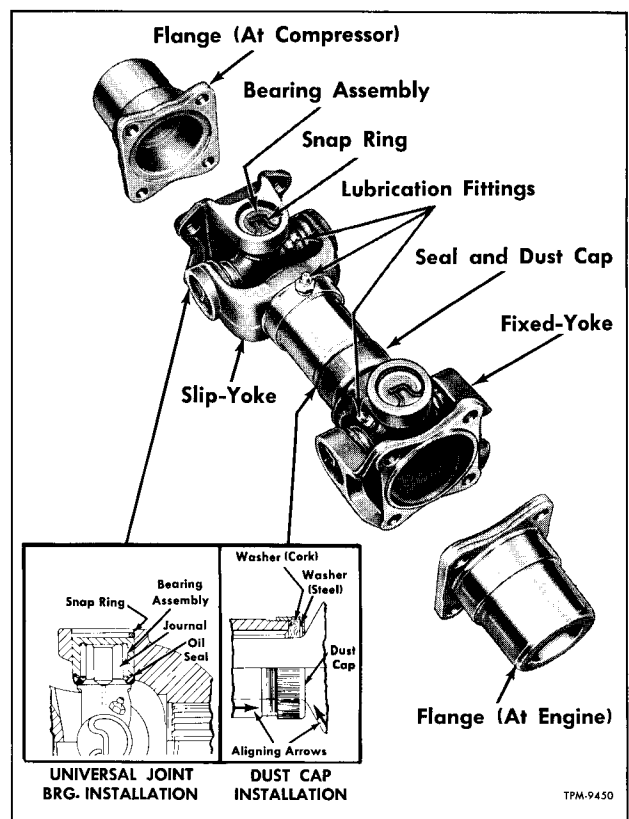

Figure 98—Compressor Drive Shaft Assembly
DRIVE SHAFT REMOVAL (Refer to Fig. 98)
DRIVE SHAFT INSTALLATION (Refer to Fig. 98)
UNIVERSAL JOINT BEARING REPLACEMENT (Refer to Fig. 98)
3. To install, refer to inset on figure 98 for relative position of parts, then place steel washer and dust washer (seal) in cap. Place cap over splines on fixed-yoke.
8. Install compressor drive shaft assembly. **IMPORTANT:** Make sure the slip yoke end of shaft assembly is positioned toward the compressor (see fig. 98). NOTE: If necessary to rotate engine flange